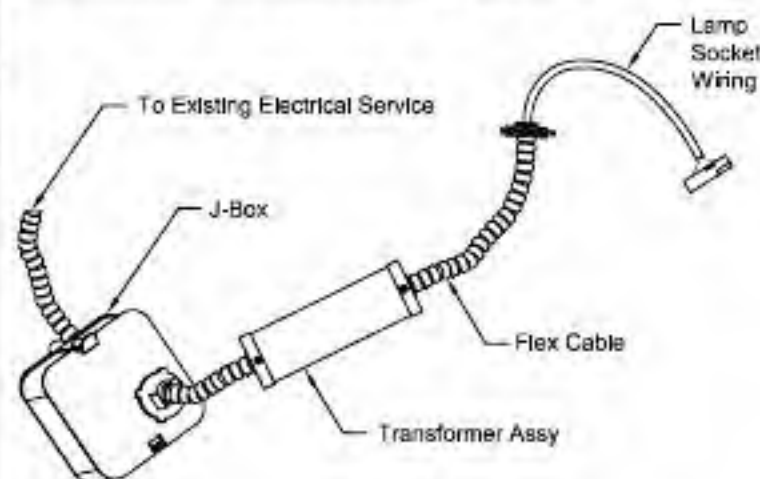

Figure 2
3. Connect wiring inside J-Box (See Fig. 2) to Existing Electrical Service through Knockout provided.